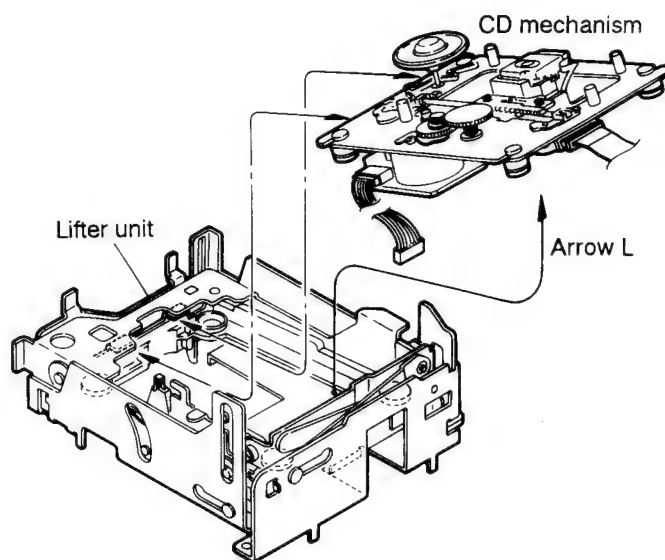

Fig. 5-34
2. By raising the CD mechanism assembly in the arrow direction (M), remove the assembly from the lifter unit (Fig. 5-34).